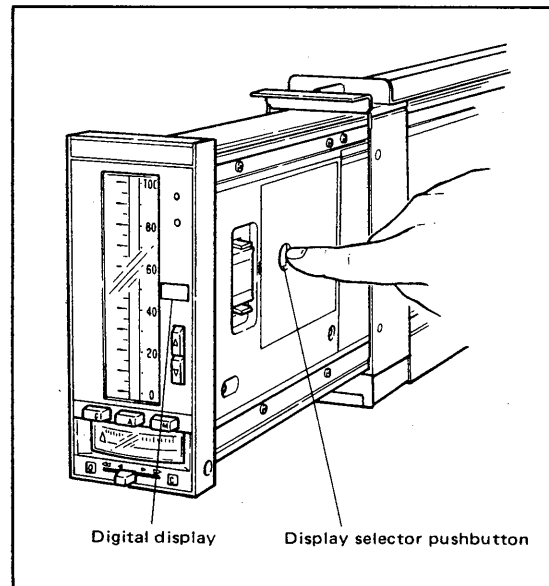

Figure 5-1-4. Display Selector for Digital Display.
- (3) The value of the process variable is displayed as a 4-digit number. The indicator displays the set value while the display selector pushbutton on the right side of the SLPC controller is pressed. (See Figure 5-1-4.)